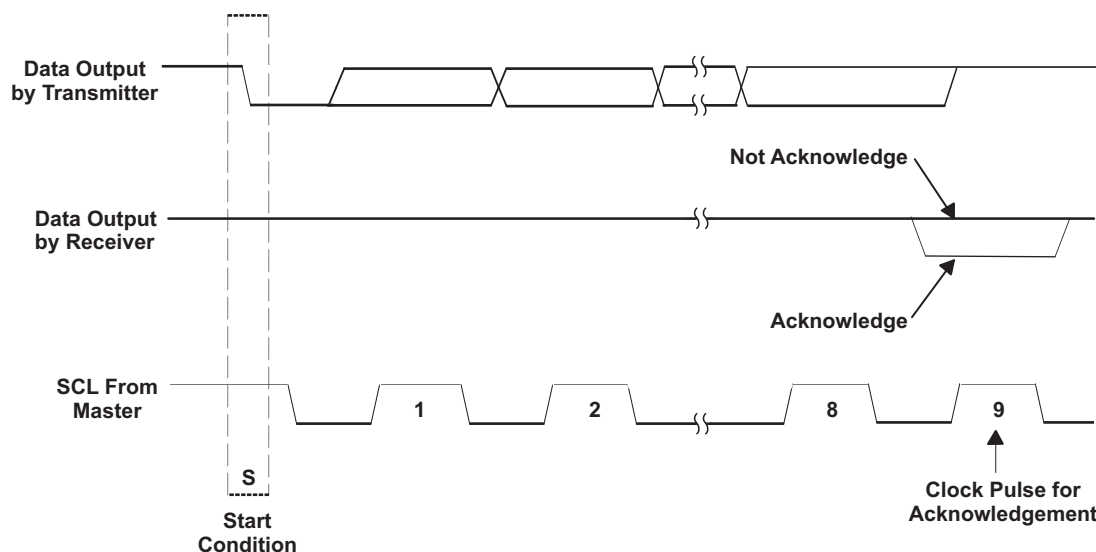

Figure 25. I²C Acknowledge
- The master then generates the SCL pulses and transmits the 7-bit address and the read/write direction bit R/W on the SDA line. During all transmissions, the master ensures that data is valid. A valid data condition requires the SDA line to be stable during the entire high period of the clock pulse (see Figure 23). All devices recognize the address sent by the master and compare it to their internal fixed addresses. Only the slave device with a matching address generates an acknowledge (see Figure 25) by pulling the SDA line low during the entire high period of the ninth SCL cycle. On detecting this acknowledge, the master knows that a communication link with a slave has been established.